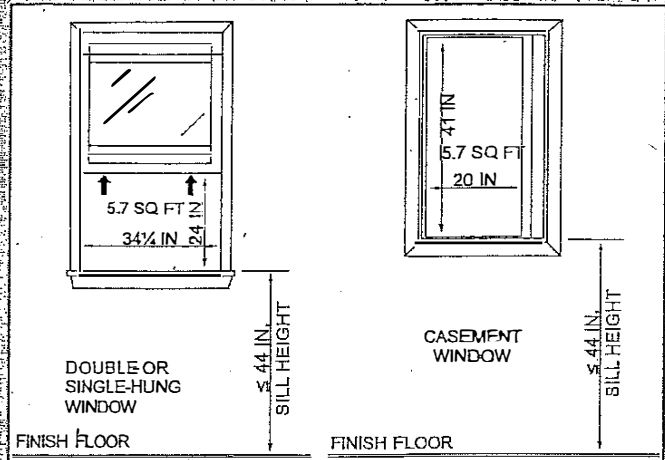

Figure 3 - Single or double hung or casement window
**Minimum net clear opening dimensions (Figures 3 and 4)**
**Maximum sill height above floor (Figures 3 to 5)**